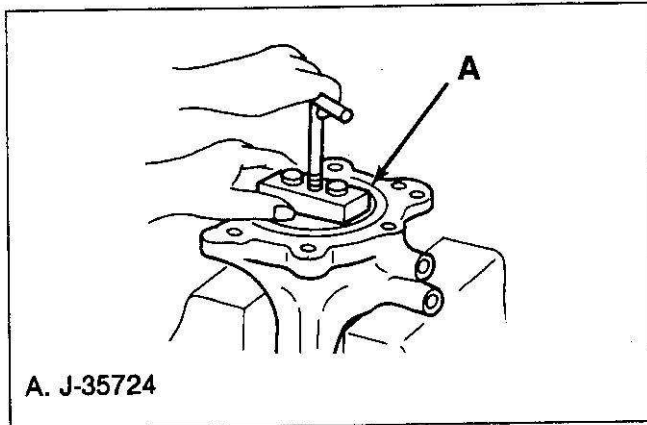

Figure 9. Removing Impeller
2. Impeller (13) using a J-35724 (figure 9).